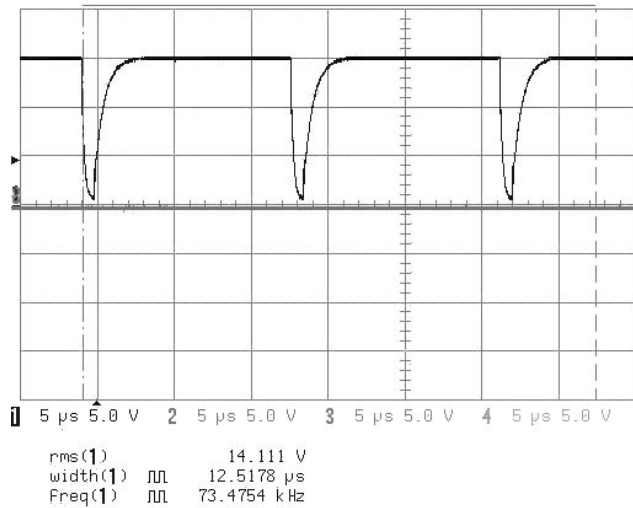

Figure 4.14 PFC Gate Switching at 60VDC
- Using an external power supply apply 60VDC to J23 and verify that the frequency changes, as shown in Figure 4.14.